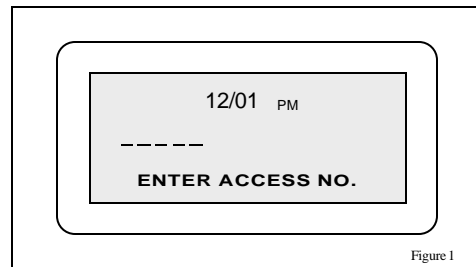

Figure 1
1. Press and hold the “**STORE**” key for 6 seconds to activate Administrator mode. The words “ENTER ACCESS NO.” will appear (figure 1).